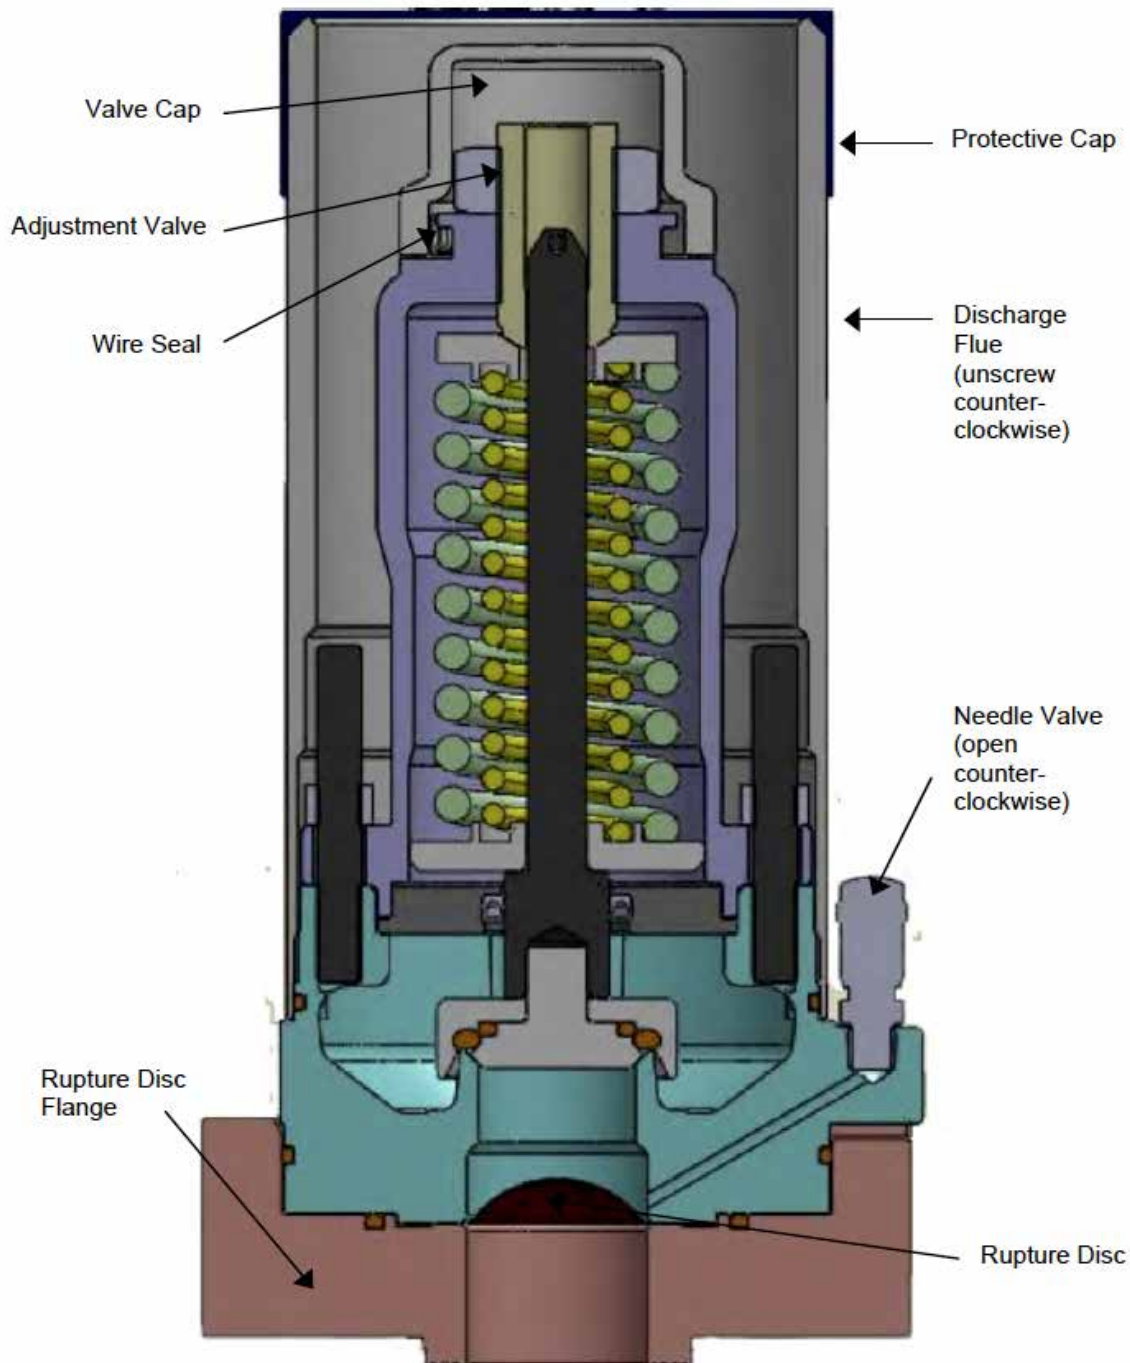

Figure 8-1 Valve Components
- 8.2.1 The rupture disc **should not be reused**. Install a new rupture disc (see figure 8-1). Make sure that the mounting flange is in serviceable condition as specified in the Valve Inspection instructions (see section 4.1).
- 8.2.4** If there is a needle valve (Figure 8-1) pipe plug, or indicator on the side of the valve, open the needle valve or remove the plug or indicator. This is necessary to equalize pressure in the chamber above the disc.